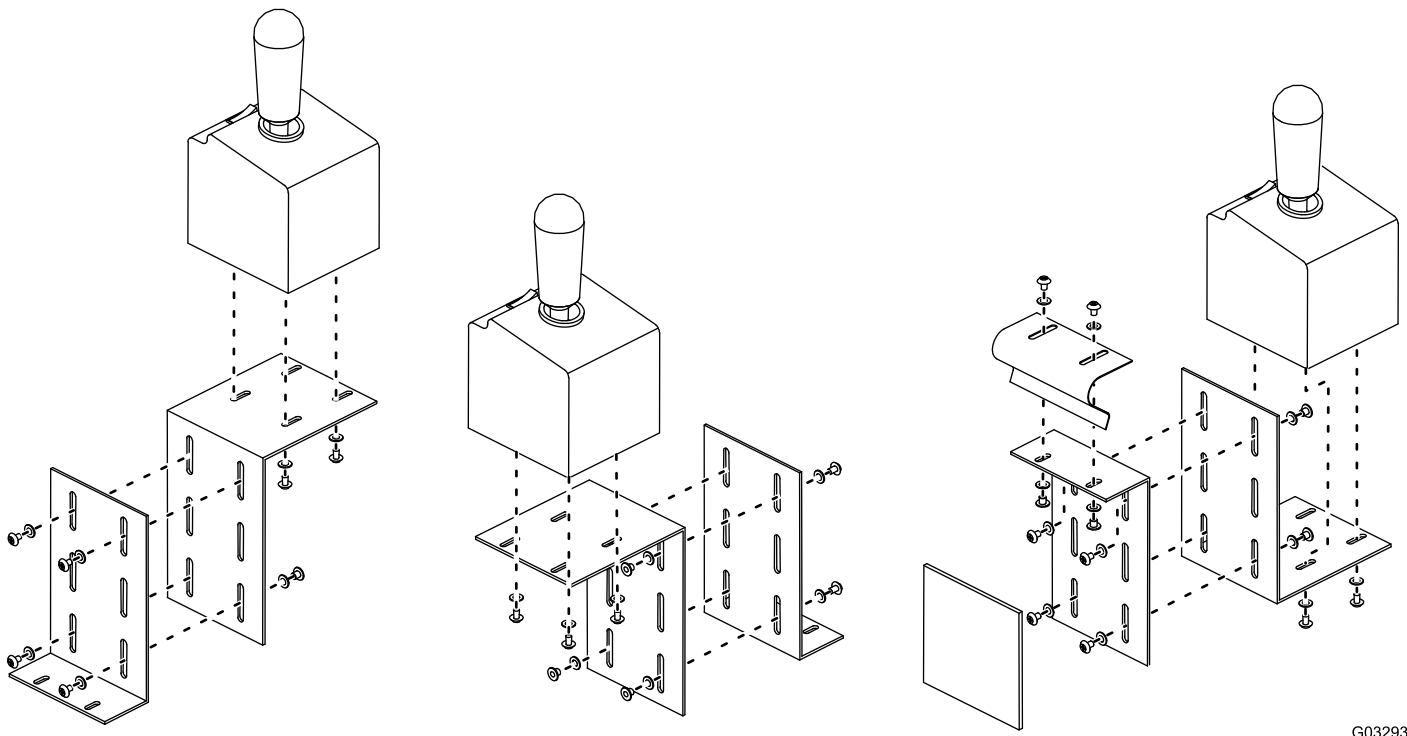

Figure 23
1. Determine the best location and configuration for your controller mounting-bracket; refer to Figure 23 for possible configurations.
2. Secure the mounting brackets to the vehicle and joystick controller using 8 to 10 bolts (#8), washers (#10), and nuts (#8) as shown in Figure 23.